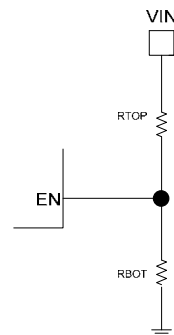

**Figure 1. EN Divider Network**
- 3) AP6508 can be enabled by Vin through a voltage divider as shown in the figure 1 below.